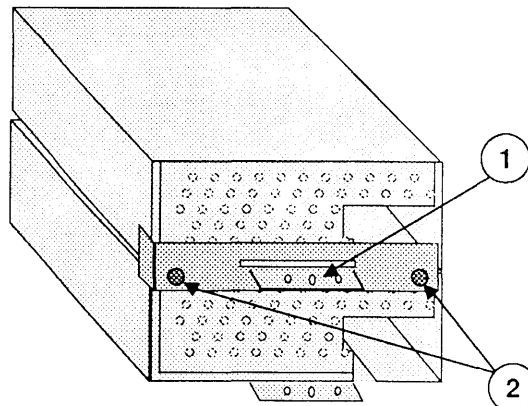

FIGURE 39
3. Place the metal bracket over the two drive housings so that the slot in the bracket (Figure 39, #1) fits over the tab on the upper housing.
4. Replace the two Phillips screws (Figure 39, #2) that secure the metal bracket to the lower internal drive housing.